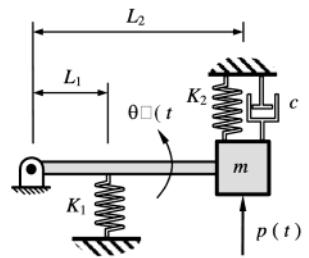

Figure Q2
2. Derive the frequency response function $\left(= \frac{\Theta^*}{P} \right)$ for the system in Figure Q2.